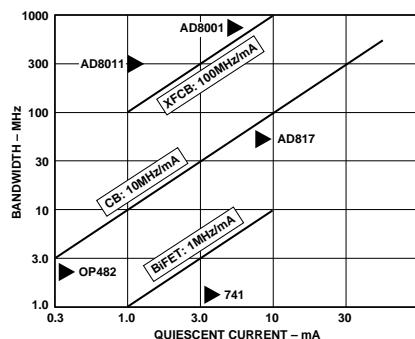

Figure 10. Bandwidth vs. quiescent supply current for IC op amps using various processing technologies.
Figure 10 shows the reference slopes depicting the typical relationship between bandwidth and quiescent current for Analog Devices BiFET, complementary-bipolar (CB) and eXtra-fast complementary-bipolar (XFCB) processes, with representative product types. Note that the AD8011 is capable of 300-MHz bandwidth, while drawing a quiescent current of 1.0 mA maximum from a single +5-V supply (and it generates only 2 nV/ $\sqrt{\text{Hz}}$  of noise at 10 kHz).